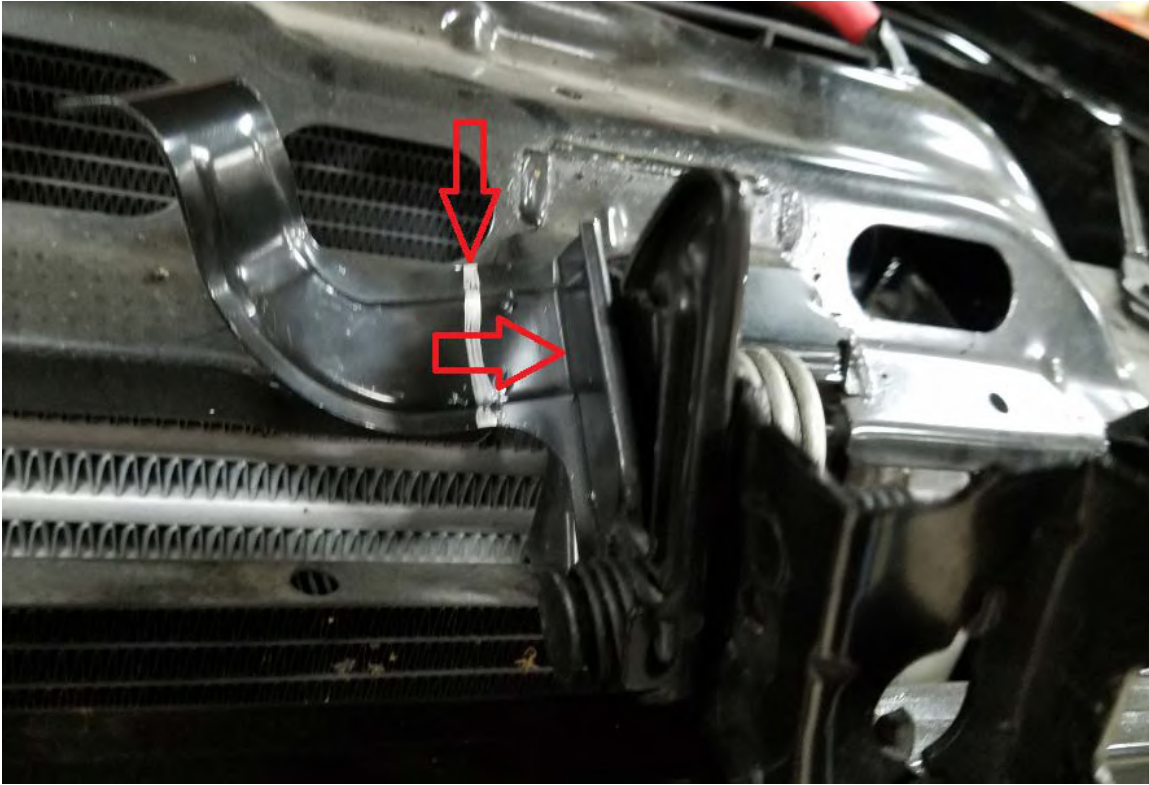

Figure 13
**M. Reattach modified metal frame on truck and reinstall headlights. Reattach the hood release and adjust so that it works properly. The hood release will need to be cut to be able to fit the Grumper on the truck (Figure 13). Cut the hood release about 1" from the surface the horizontal arrow is pointing at. The hood release can be accessed thru the *Grumper center mesh* to raise the hood.**